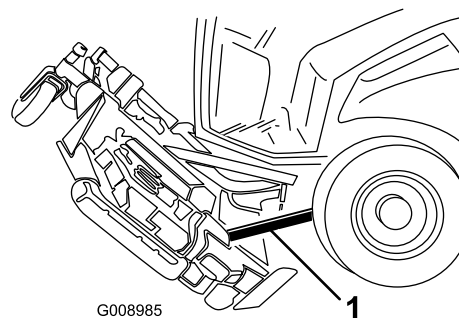

Figure 89
5. Wedge a 2 x 4 between the rear of the deck and the machine (Figure 89).